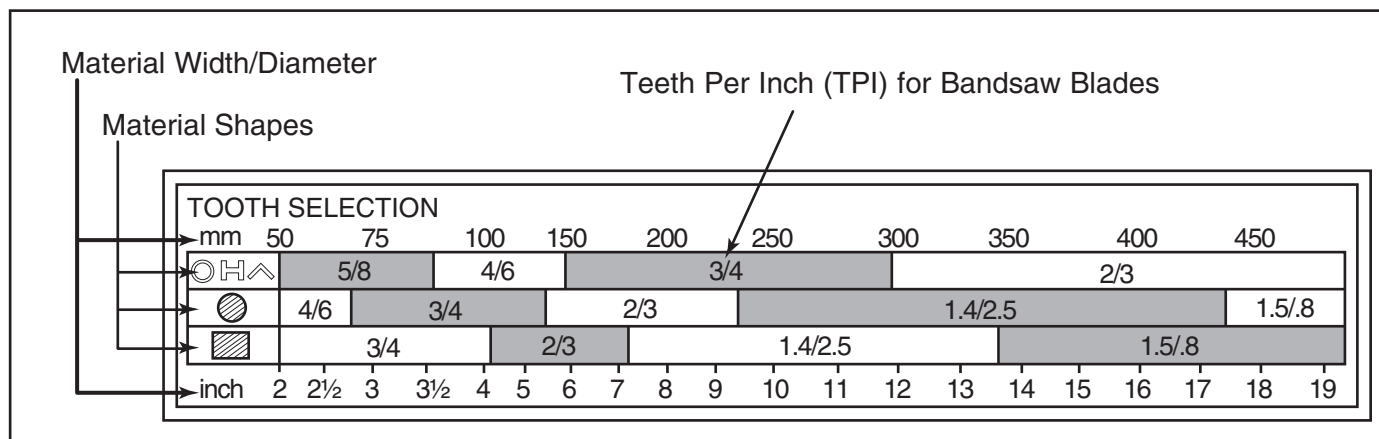

Figure 18. General guidelines for blade selection and speed chart.
2. Refer to "Material Width/Diameter" row of blade selection chart in **Figure 18**, and read across to find workpiece thickness you need to cut.